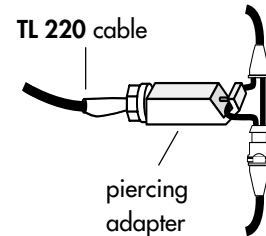
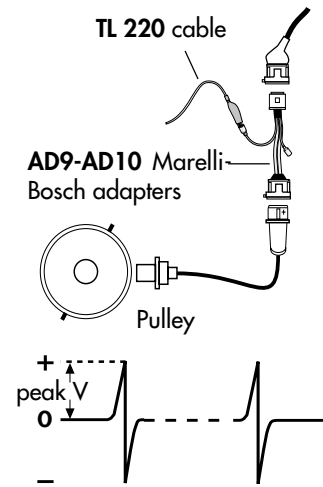

Fig. 13
Fig. 15
**5.1** Perform the measurement by picking up the injection signal through the **TL 220** cable connected to the **AD16** adapter (fig. 11) or to the **AD33A** needle (fig. 13). Fig. 11 shows an engine with DIS system, in this case select 1 spark per revolution through key .
Signals can be picked up by piercing the wire (Fig. 13), through the **AD33A** needle (Fig. 12) or by using the special adapter (Fig. 15 -16).